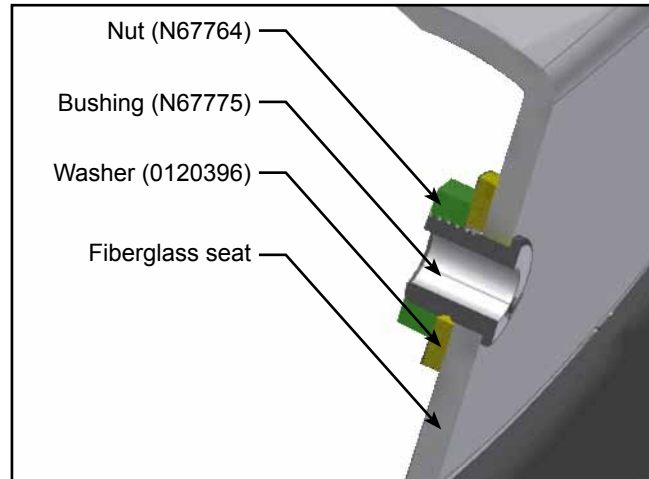

Figure 4 - Bushing Assembly
- 1.9. Insert the bushings (N67775) into the holes and secure them with the washers (0120396) and nuts (N67764). Apply medium Loctite, or equivalent, to the bushing before installing the nut. See Figure 4.